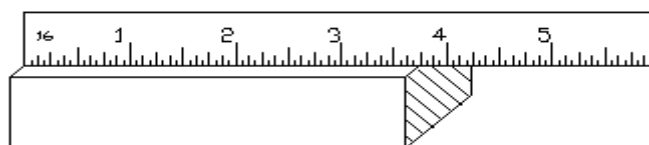

Figure 1
- ✓ To get the full accuracy out of a rule, it is important to use it correctly. Never use the end of the rule to align with the edge of the work for a measurement (Figure 1). The end of a rule is often rounded off from misuse, and a true measurement will not be made.